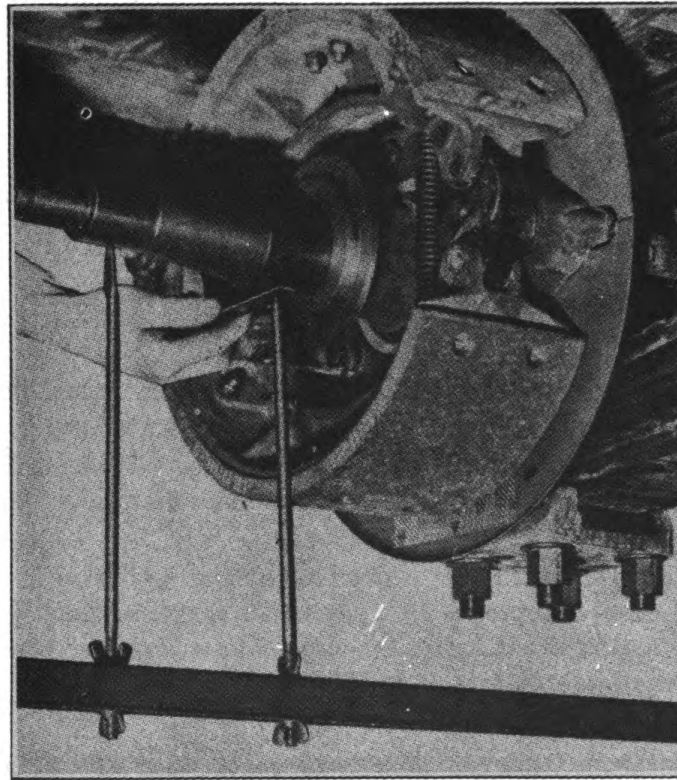

FIGURE 8. CHECKING AXLE FOR CAMBER
4. CHECKING FOR CAMBER (Fig. 8).—*a.* Set the points of the axle gauge in exactly the same position on the axle and in the same manner as outlined in points *a* and *b* of Checking for Bend.